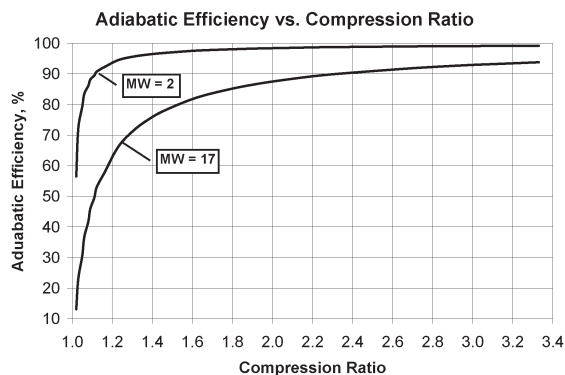

Figure 8. Reciprocating Compressor Efficiency.
- *Reciprocating*—Reciprocating compressors have a very characteristic adiabatic efficiency curve (Figure 8). As compression ratio drops, adiabatic efficiency drops. Efficiency changes with molecular weight. Efficiency will also vary with several other factors, most significantly the compressor cylinder's ratio of valve flow area to main bore diameter and piston speed.